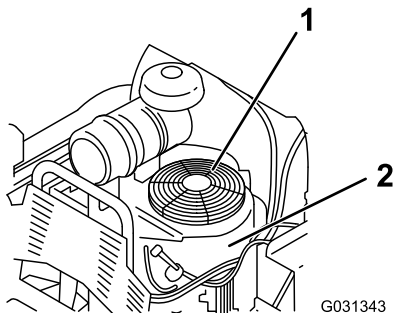

Figure 64
3. Remove the air-intake screen and fan housing (Figure 64).
5. Install the air-intake screen and fan housing (Figure 64).